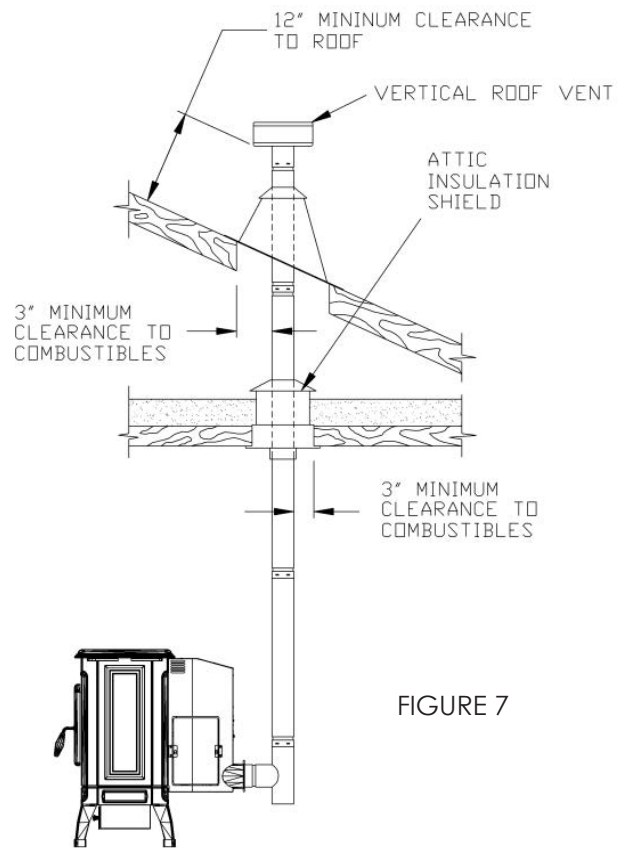

FIGURE 7
B. VERTICALLY WITH NEW CHIMNEY SYSTEM (Refer to Figure 7)